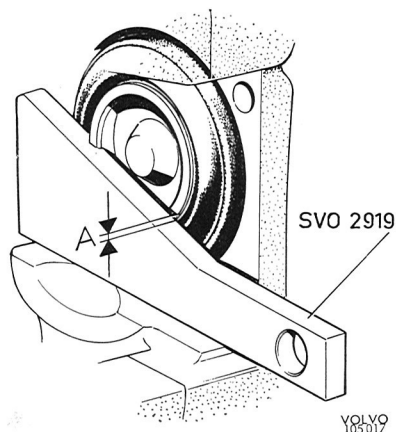

Fig. 5-27. Checking location
- 3b. ATE: Check to make sure the pistons are in the proper position to avoid brake squeal. The piston recess should incline 20° in relation to the lower guide area on the caliper. Check the location with template 2919, see Fig. 5-27. The tolerance is $\pm 2^\circ$, that is, when the template is placed against the one recess, the distance to the other (meas. A) may be max. 1 mm (.039").